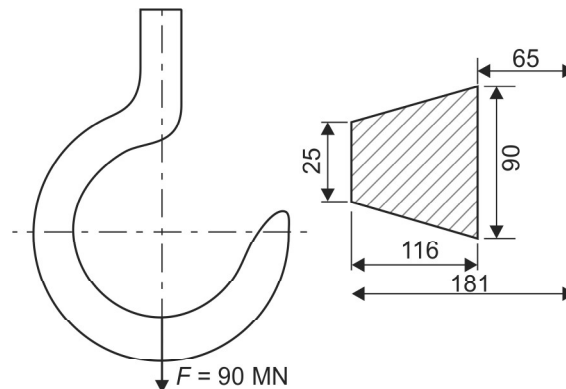

Fig. M1.3
- b. A crane hook has a section which, for purpose of analysis, is considered as trapezoidal. The dimensions are shown in Fig. M1.3. Determine the maximum stresses and the location. (15 Marks)